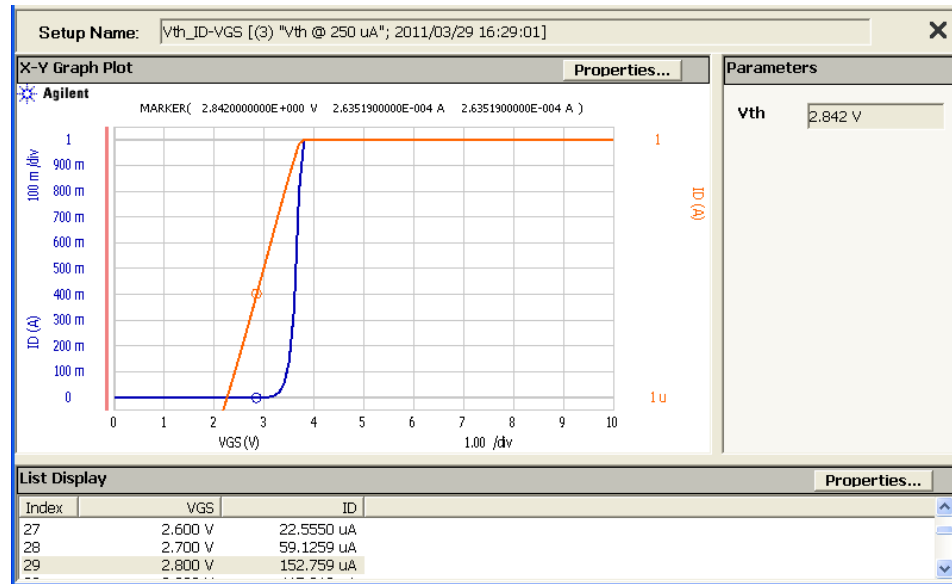

Figure 3-16. Vth\_ID-VDS Classic Test data example.
Step 19. You can see the Vth (Id-Vg) graph in figure 3-16.